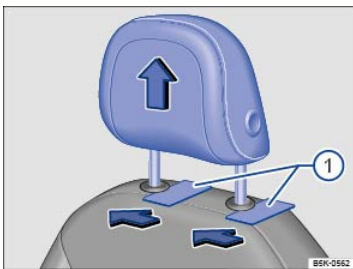

Fig. 46 Removing the front head restraints.
- Slide a flat object, such as a plastic credit card, underneath the right side of the cap (left side if sitting behind the head restraint) on the right-hand seat guide rod ➔ Fig. 46① to unlock the head restraint.
- Push the head restraint down ➔ Fig. 46.